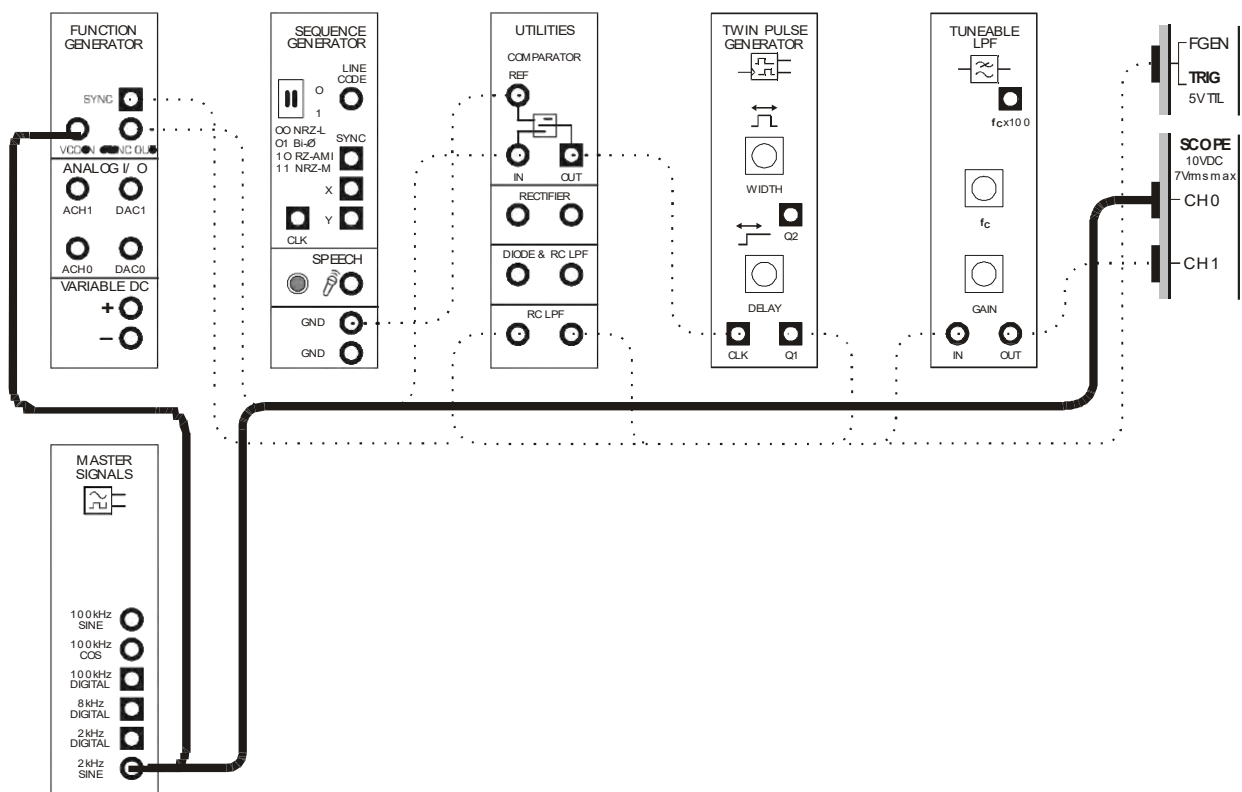

Figure 14
43. Modify the set-up as shown in Figure 14 below.